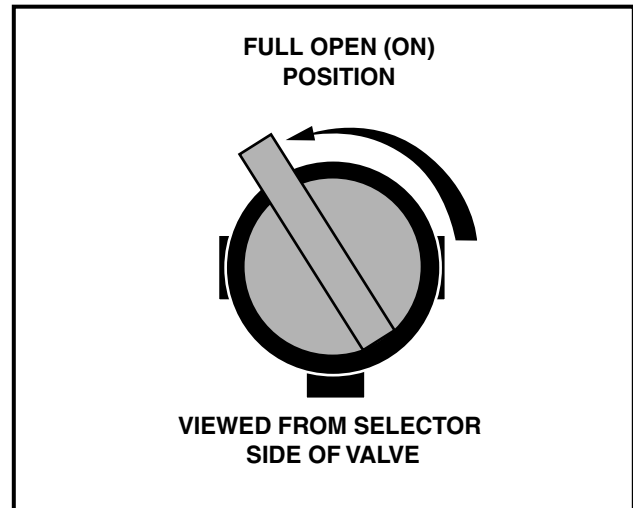
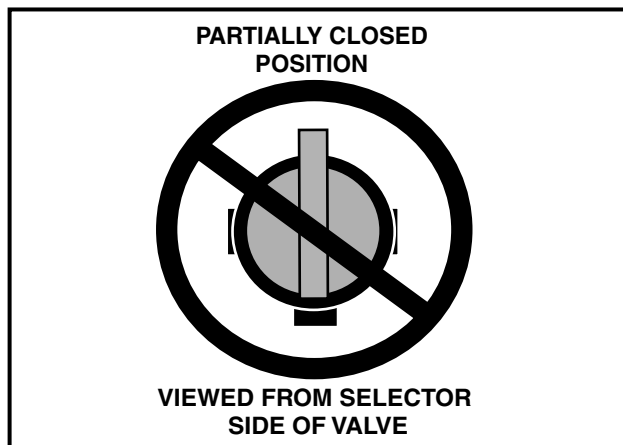

Figure 13 Fuel Shut-off Valve – Open Position
Figure 14 Incorrect Fuel Shut-off Valve Setting
- 2.1. Remove plug from the fuel tank vent nipple and open the fuel shut-off valve (**Figure 13, Page 23**). Make sure the valve is fully open. A partially closed fuel shut-off valve (**Figure 14, Page 23**) combined with the use of the choke can result in a fouled spark plug and engine failure.